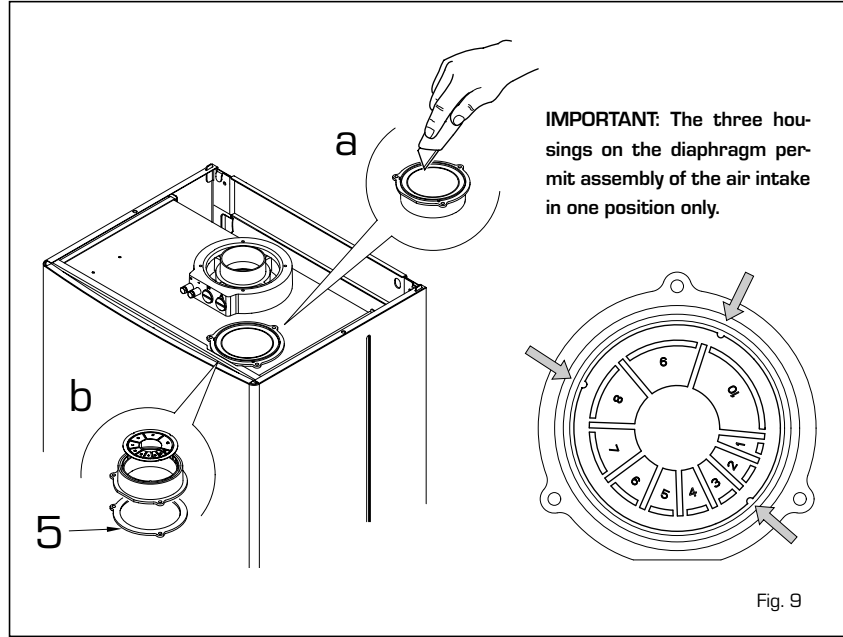

Fig. 9
2.8.2 Use of air intake (fig. 9)